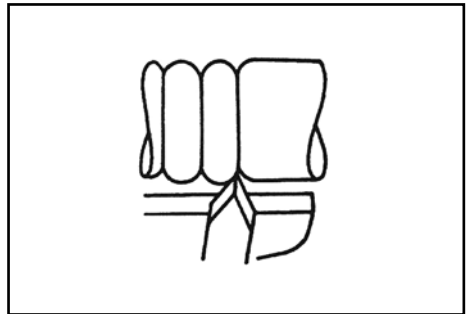

FIG. 36
10.11 USING SCRAPING CHISELS – FIGS. 36 – 38
Finally, three more types of chisel should complete the list of chisels for the average craftsman, these are 12mm spear point, 12mm round nose and 26mm flat nose. Each of these chisels may be purchased in various sizes, (refer to the Draper Catalogue) for special jobs. All of these are very useful for diameter scraping (see Figs.36, 37, 38) operations and for circumference scraping when cutting methods cannot be employed.